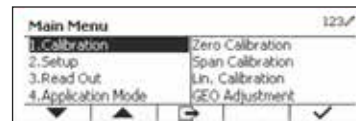

Figure 2
1. Long press the  button to enter main menu. Press the softkey corresponding to the ✓ icon to enter the Calibration submenu. (See Figure 2)